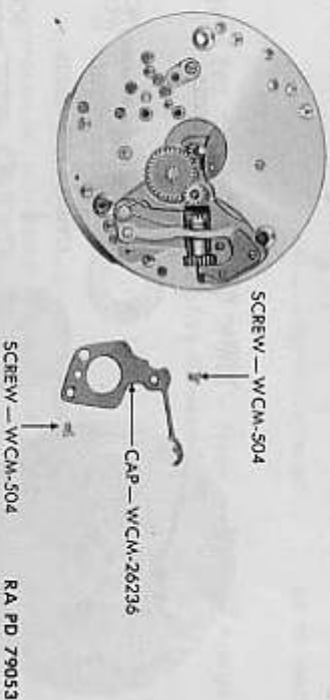

Figure 159 — Waltham Wrist Watch — Shipper Cap Assembly Removed
- j. Remove Shipper Cap (fig. 159). Invert movement on movement block and remove shipper cap screws and shipper cap.
**g. Replace Shipper Cap Assembly (fig. 159).** Replace shipper cap, placing spring end behind setting lever stud. Replace cap screws and secure. At this point an examination must be made to check freedom of the train by inserting the stem and crown temporarily and rotating crown one turn, allowing train to revolve. If wheels of the train backlash on reaching the end of the winding, train has perfect freedom. If they slow down or stop abruptly, a bind exists and must be corrected.